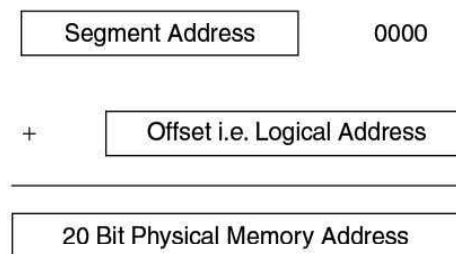

Fig. 3.51 Physical Address Calculation
Segment addresses must be stored in segment registers. The offset is derived from the combination of pointer registers, the Instruction Pointer (IP), and immediate values. Refer Figure 3.51.